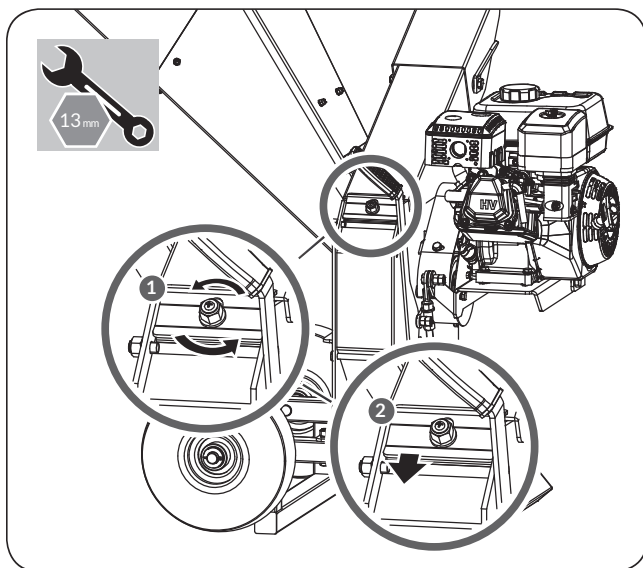

Figure 11
2. Slide down the fixing plate under the lock nut. (See **Figure 11**)